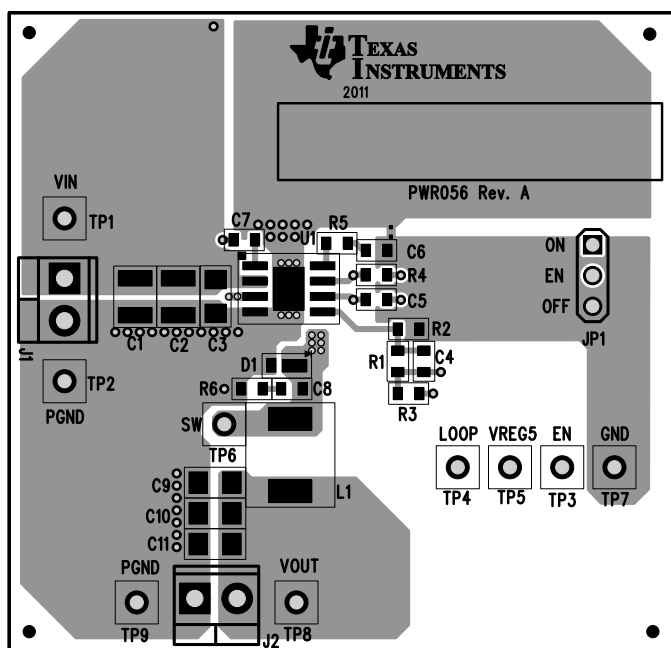

Figure 5-1. Top Assembly
Figure 5-1 through Figure 5-5 show the board layout of the TPS54329EVM-056. The top layer contains the main power traces for VIN, VO, and ground. Also on the top layer are connections for the pins of the TPS54329E and a large area filled with ground. Many of the signal traces also are located on the top side. The input decoupling capacitors are located as close to the IC as possible. The input and output connectors, test points, and all of the components are located on the top side. An analog ground (GND) area is provided on the top side. Analog ground (GND) and power ground (PGND) are connected at a single point on the top layer near C6. The two internal layers are completely dedicated to power ground planes. The bottom layer is primarily power ground. A copper pour area on the bottom layer is used to connect the switching node (SW) to the output inductor and the boost capacitor. Traces also connect the enable control jumper, EN, VREG5, and LOOP test points, and the feedback trace from VOUT to the voltage setpoint divider network.